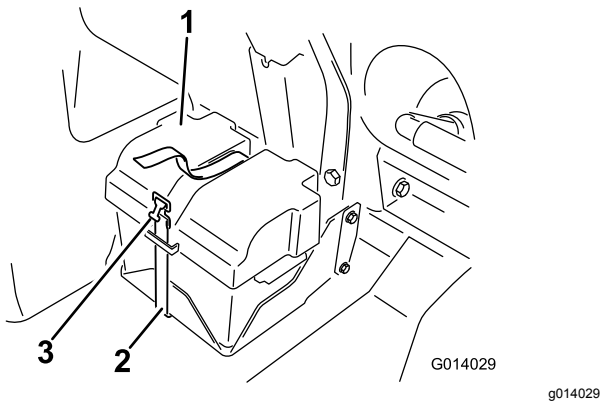

Figure 48
3. install the battery cover and secure it with the strap removed previously (Figure 48).